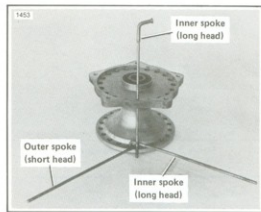

Figure 2-20. Lacing 19" Wheel
2. See Figure 2-20. Place hub on bench either side up. Insert one outer spoke (short-head) into any bottom flange hole and swing it clockwise. Insert an inner spoke (long-head) in the next hole to the left of the outer spoke. Swing the inner spoke counterclockwise over the outer spoke.
3. See Figure 2-20. Insert an inner spoke into the hole on the top flange that directly bisects the two spokes in the bottom flange. Insert all remaining spokes in both hub flanges alternating the inner and outer spokes.